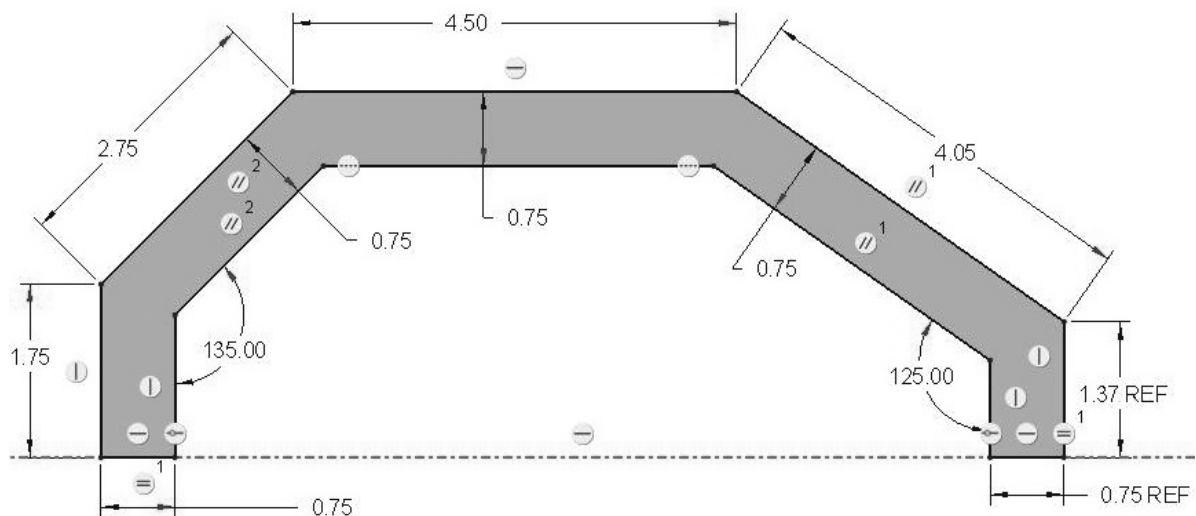

Figure 3-77 Problem 8—Support Frame
- 3.8 Draw the "support_frame" (Figure 3-77). **Design Intent**—The thickness of the frame is $\frac{3}{4}$ of an inch. The two legs are vertical and the top is horizontal. What is the volume of the shaded area if the support frame was 10 inches deep? Can you determine the volume underneath the support frame (white space under) if it is 10 inches deep? (>File>Options>Sketcher, change to 2-decimal places before sketching.)